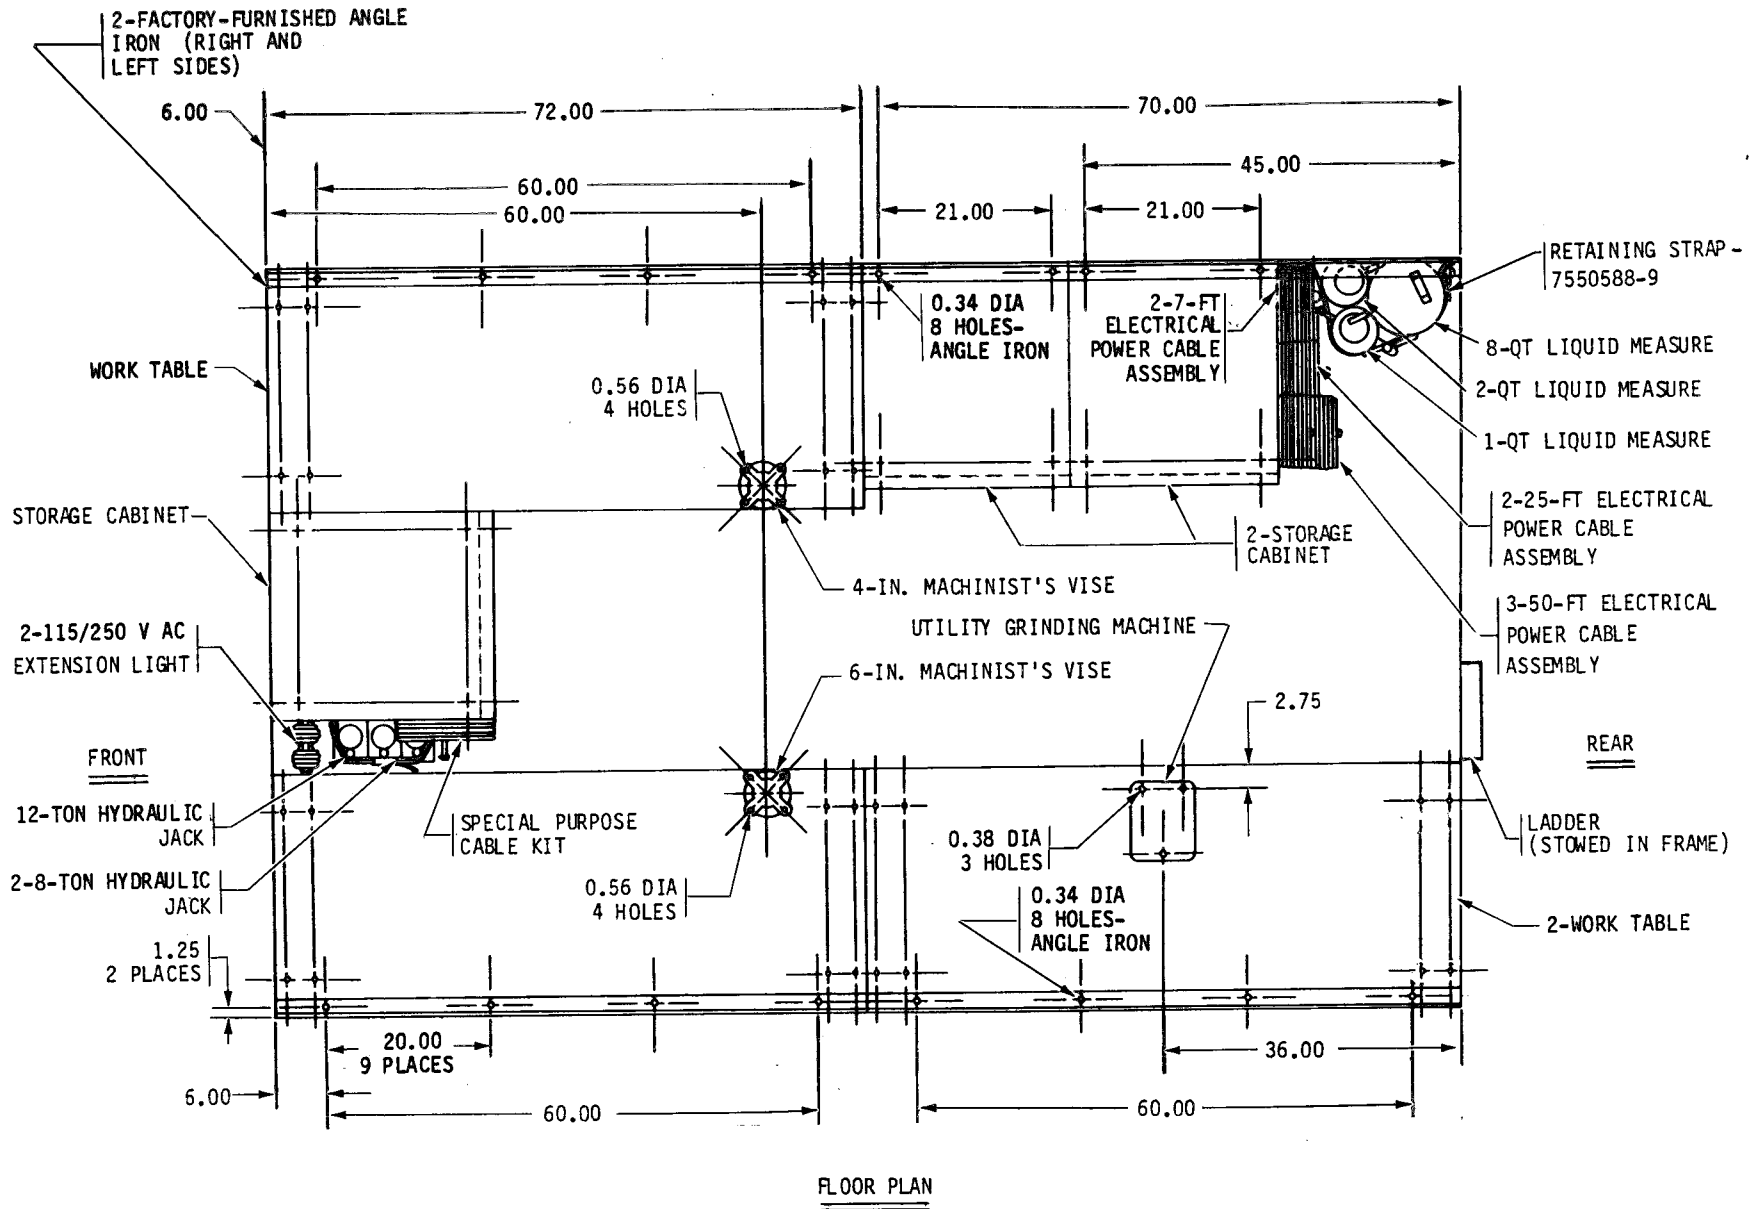
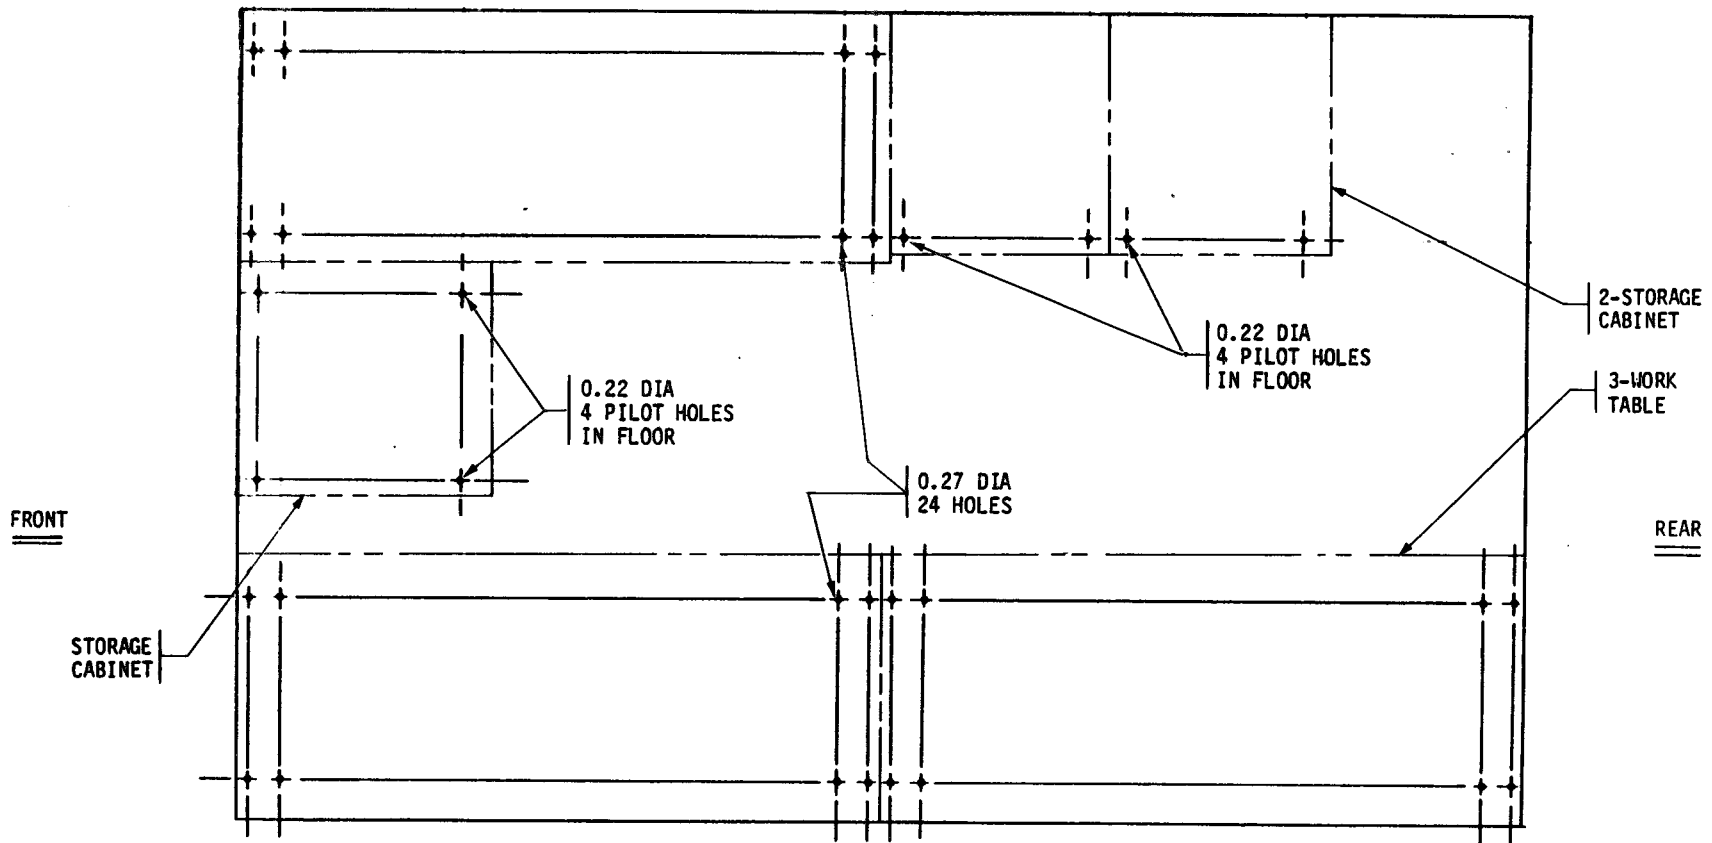

Figure 2. Components to be mounted, floor plan, unit 1, M109A3.
Figure 3. Hole dimensions for mounting components, floor plan, unit 1, M109A3.
Position floor, table, and cabinet mounted equipment as shown in figures 2 thru 23. Use the equipment mounting holes as templates for location of blind rivet nuts and fasteners. Positions may be varied to drill into structural members in fixed floor.
c. Follow steps (1) thru (14) below for equipment installation in unit 1, M109A3 shop van truck.
(1) Mark and drill sixteen 0.34-in. diameter holes through horizontal legs of two factory-furnished angle irons in accordance with figure 2. Position three work tables (4910-00-357-5342) in accordance with figures 2, 6, and 7 under factory-furnished angle irons. Using the work tables as templates, mark and drill twenty-four 0.27-in. diameter holes through table legs and 1.00 inch deep into van floor in accordance with figure 3. Reposition work tables and secure to van floor using twenty-four 3/8- x 1-1/4-in. hex head lag bolts (MS16992-540) and twenty-four 3/8-in. lockwashers (MS35338-46). Using the drilled angle irons as templates, mark and drill sixteen 0.34-in. diameter holes through tabletops in accordance with figure 2. Secure work tables to angle iron using sixteen 5/16- x 1-1/8-in. hex head capscrews (MS90725-35), sixteen 5/16-in. **flat washers** (MS27183-11), sixteen 5/16-in. lockwashers (MS35338-45), and sixteen 5/16-in. hex nuts (MS51967-5).
(2) Position three storage cabinets (7125-00-330-0130) in van in accordance with figures 2, 6, and 7. Mark and drill eight 0.34-in. diameter holes in bottom plates of storage cabinets (four holes in one storage cabinet and two holes per remaining storage cabinet). Locate at corners, allowing for minimum required clearance for 5/16- x 1-1/4-in. hex head lag bolts. Using storage cabinets as templates, mark and drill eight 0.22-in. diameter pilot holes into van floor 1.00 inch deep. Secure storage cabinets to van floor, using eight 5/16- x 1-1/4-in. hex head lag bolts (MS16992-521) and eight 5/16-in. lockwashers (MS35338-45).
(5) Position electrical power cable assemblies (two 4910-00-800-1405, two 4910-00-725-9558, and three 6150-00-682-3460) and special purpose cable kit (2590-00-148-7961) on cabinet squareneck bolts in accordance with figures 2 and 6.
(7) Position two 8-ton hydraulic jacks (5120-00-595-8396) and 12-ton hydraulic jack (5120-00-224-7330) in accordance with figures 2 and 6. Secure hydraulic jacks to storage cabinet with a 48.00-in. retaining strap (7550588-3).
(8) Position 1-qt liquid measure (7240-00-233-6013), 2-qt liquid measure (7240-00-225-8113), and 8-qt liquid measure (7240-00-255-5996) in van as shown in figure 2. Secure liquid measures to van wall with a 66.00-in. retaining strap (7550588-9) in accordance with figures 2 and 6.
(9) Position 4-in. machinist's vise (5120-00-293-1439) on work table right side in van as shown in figures 2 and 6. Using base of 4-in. machinist's vise as a template, mark and drill four 0.56-in. diameter holes in tabletop. Secure 4-in. machinist's vise to work table with four 1/2- x 2-in. hex head capscrews (MS90725-115), four 1/2-in. flat washers (MS27183-17), four 1/2-in. lockwashers (MS35338-48), and four 1/2-in. hex nuts (MS51967-14).
(10) Position 6-in. machinist's vise (5120-00-223-1945) on work table left side in van as shown in figures 2 and 7. Using the base of the machinist's vise as a template, mark and drill four 0.56-in. diameter holes through tabletop. Secure machinist's vise to tabletop with four 1/2- x 2-in. hex head capscrews (MS90725-115), four 1/2-in. flat washers (MS27183-17), four 1/2-in. lockwashers (MS35338-48), and four 1/2-in. hex nuts (MS51967-14).
(11) Position two 115/250 v ac extension lights (6230-00-268-9436) on squareneck bolt of storage cabinet in accordance with figures 2 and 6.
(13) Position utility grinding machine (3415-00-255-2683) on work table in accordance with figures 2 and 7. Using base of utility grinding machine as a template, mark and drill three 0.38-in. diameter holes through tabletop. Secure utility grinding machine to tabletop using three 5/16- x 1-1/2-in. hex head capscrews (MS90725-38), three 5/16-in. flat washers (MS27183-11), three 5/16-in. lockwashers (MS35338-45), and three 5/16-in. hex nuts (MS51967-5).
(14) Ladder (2540-00-641-0187) is stowed in frame of van in accordance with figure 2.
d. Follow steps (1) thru (18) below for equipment installation in unit 2, M35A2 cargo truck.